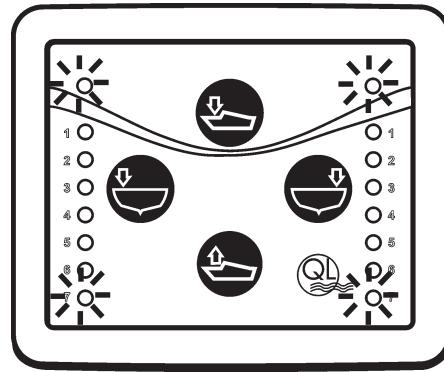

Fig. 24
5. The blades will go fully out, stop and then retract fully. Once this has be done in a proper way, the two upper and two lower LEDS on the control panel will flash twice. **See fig. 24.**